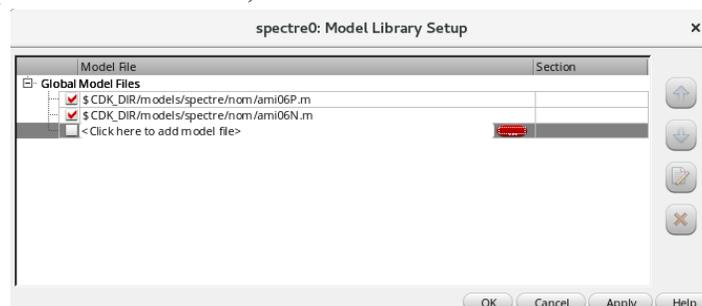

Figure 6: Including Model Libraries
**Before simulating your test circuit, you must include the diode file created earlier in the model.** To do this, open ADE Assembler, create a test for your schematic, and go to Setup Model Libraries and a popup will appear like figure 6. Click on the (...) button to the right of <Click here to add model file> then find your diode.scs file in your file system. Click on the section area to the right of this and a small down arrow will appear. Click on the drop down list and select, “d”.